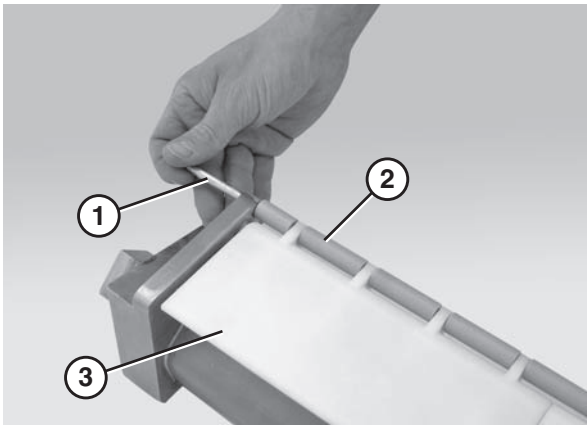

Figure 77
5. Remove the nose bar shaft (**Figure 77, item 1**), the rollers (**Figure 77, item 2**) and the roller mounts (**Figure 77, item 3**).